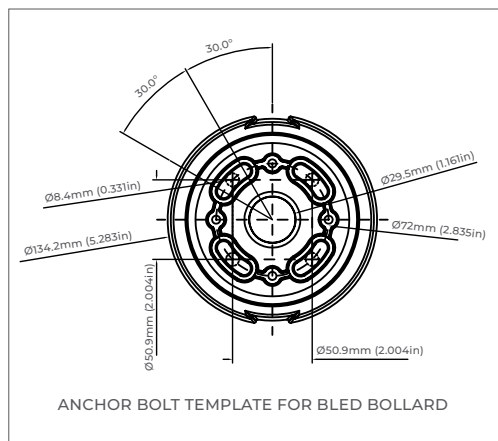

FIGURE 1
- Verify bolt circle diameter and anchor bolt projection and use anchor bolt template (figure 1) to assure accuracy.